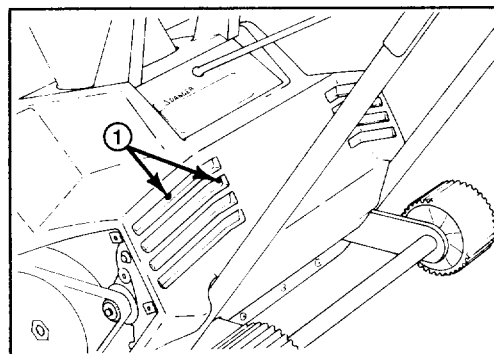
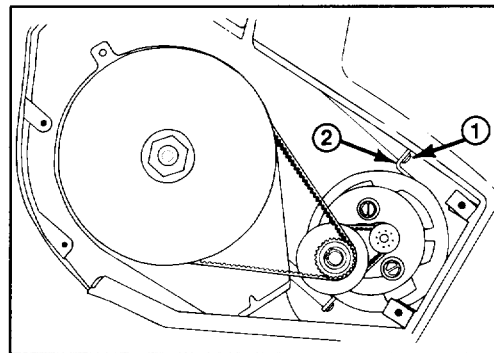

Figure 14
Figure 15
3. Insert a Phillips screwdriver through holes in rear of shroud (Fig. 14) and loosen the (2) screws holding the motor mounting brackets (Fig. 15). Use caution not to damage wires behind shroud.
Note: If motor was rotated to loosen the belt, you must first retighten the (2) mounting bracket screws through back of shroud (Fig. 14 & 15).
8. Rotate the mounting plate clockwise until the belt is tightened to 32 lbs, then tighten the (2) $5/16$ " socket head screws securing mounting plate.